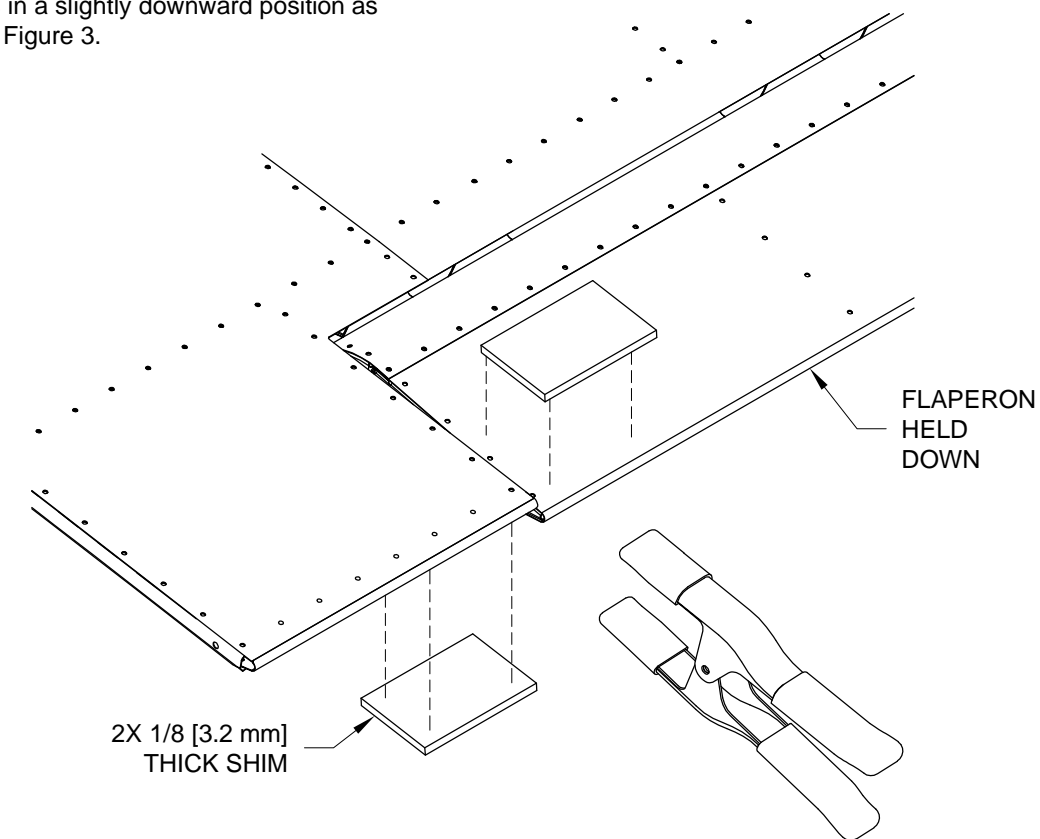

FIGURE 3: SHIMMING & CLAMPING THE FLAPERON TRAILING EDGES
Step 5: Use shims and clamps at the trailing edge to lock both the left and right flaperons in a slightly downward position as shown in Figure 3.
Step 3: Verify that the arms of the WD-1215-L & -R are exactly parallel to each other. This can be accomplished by measuring the distance between the F-01206F-2 and the attach bolts for the Flaperon Pushrod Assemblies. The measurement must be the same for both arms; see Figure 2 and Page 38iS/U-05, Figure 1. If they are not parallel, make sure the F-01263A-1 & B-1 are centered (see Page 38iS/U-03, Figure 3) and, if necessary, readjust the lengths of the Flaperon Pushrod Assemblies to the dimensions given on Page 32iS/U-09, Figure 1.